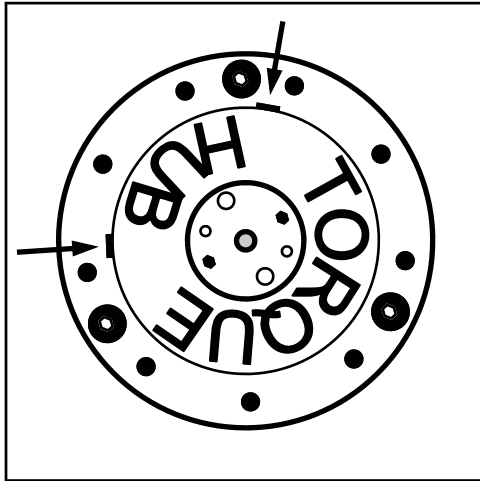

FIG 7.4
**OIL LEVEL** - Each Torque Hub® should maintain an oil level of half full at all times. Less than that would limit lubrication, and over half full could cause overheating and damage. To check oil level, position Torque Hub® so one of the drain plugs is positioned at 12 O'clock (fig. 7.4). The other plug will be either at 9 O'clock or 3 O'clock. Remove the lower plug: if no oil comes out, oil level is too low. Check Torque Hub® oil level every 100 hours.